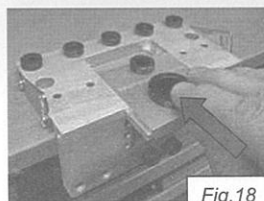

Fig. 18
- 9.1. Slide the Rafix-Pushfix-Onefix-Slimfix drill guide into the jig body (fig. 18).